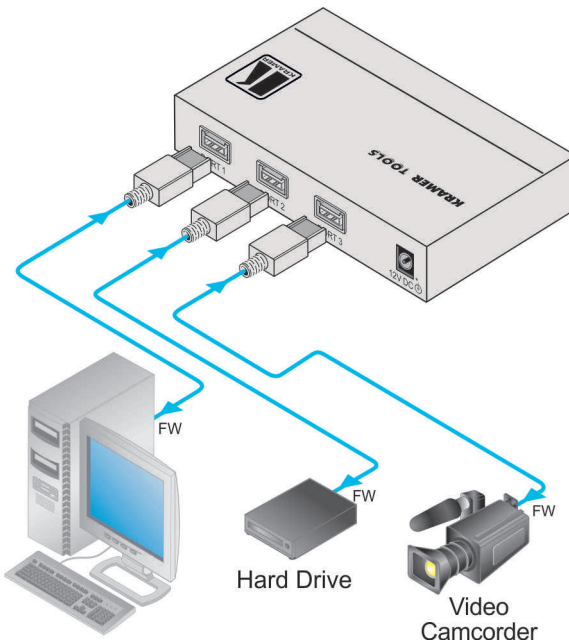

Figure 2: Connecting the VS-30FW FireWire 800/1394b Repeater / HUB
To use the **VS-30FW** FireWire 800/1394b Repeater / HUB, as the example in Figure 2 illustrates, do the following:
2. Connect the 12V DC power adapter to the power socket and connect the adapter to the mains electricity (not shown in Figure 2).